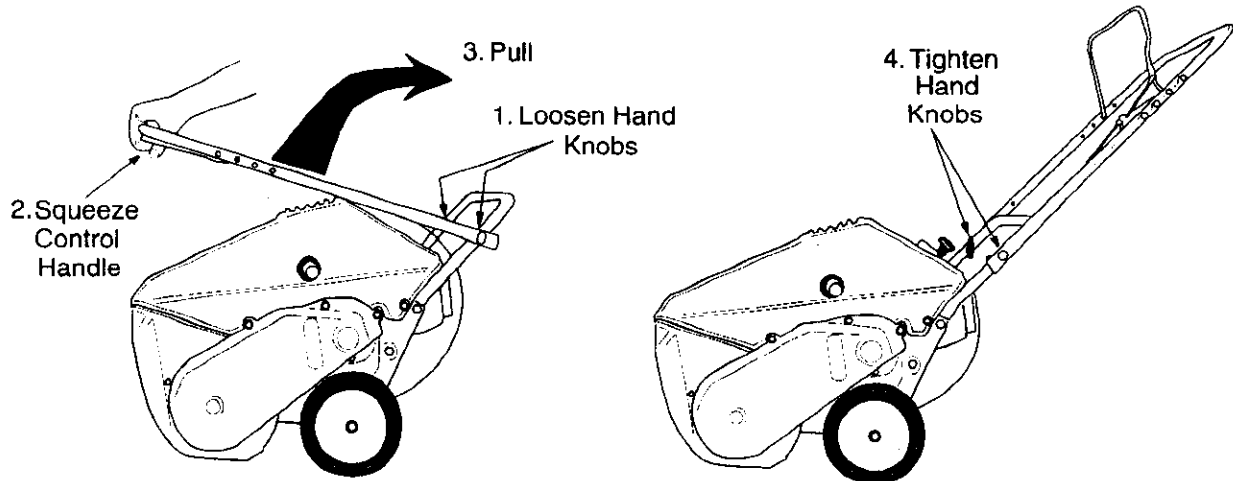

Figure 4
1. Loosen the hand knob on each side of the handle. See Figure 4. Remove packing material (if any).